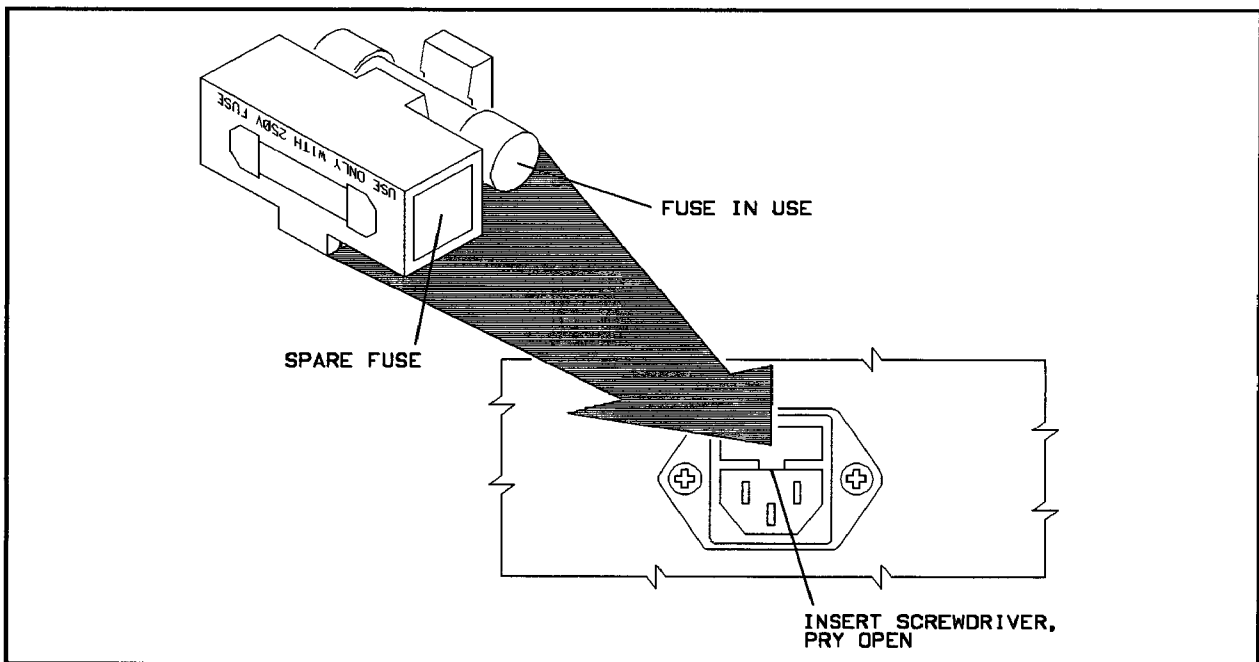

Figure 5-10. Line Fuse Removal and Replacement
- See Figure 5-10 to remove and replace the fuse.